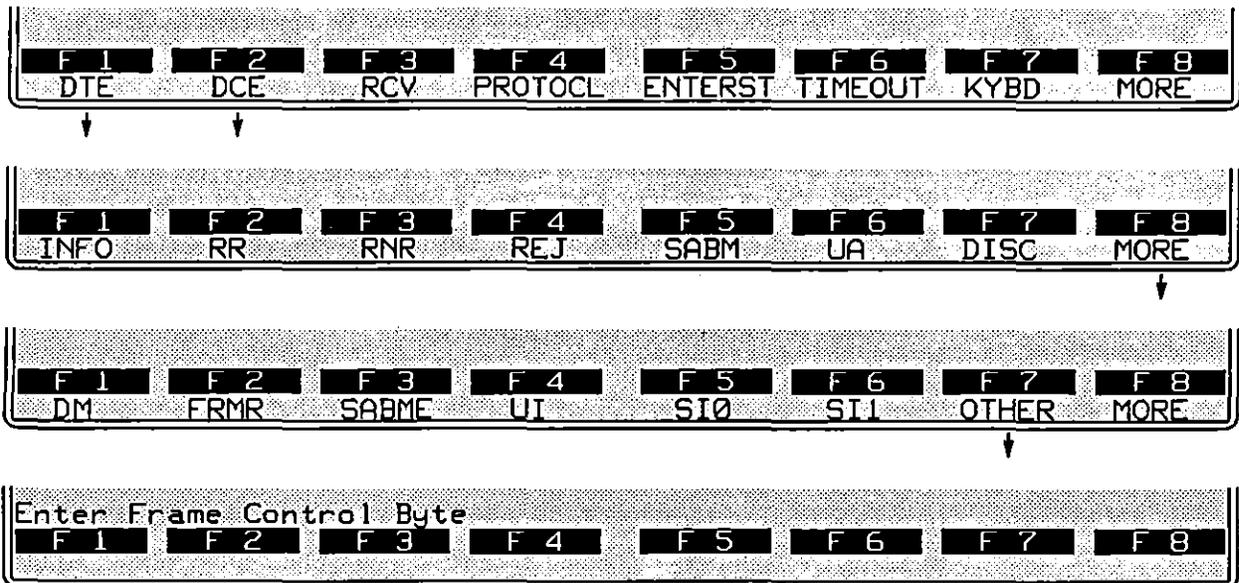

Figure 42-7 The hex value of any frame may be specified under *OTHER*.
5. *Other frames.* Any frame type may be entered as a hexadecimal value instead of by name. Press the softkey for *OTHER*. See Figure 42-7. Then enter the hex byte in the form of two alphanumerics. Here, for example, is a SABM (with the P bit set) entered as a hexadecimal: